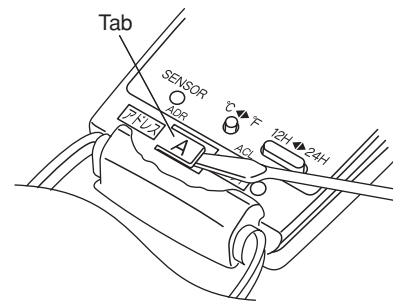
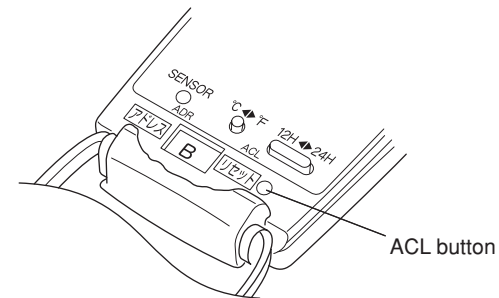
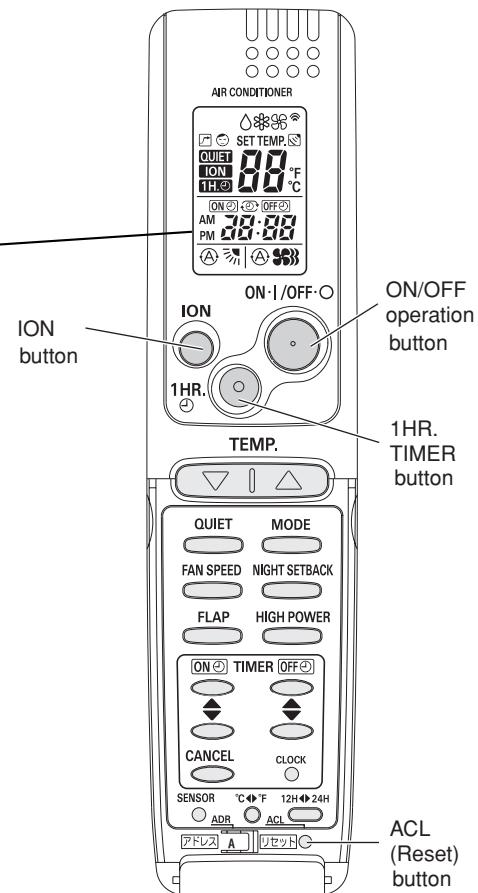

Fig. 62
Fig. 63
Fig. 64
- (1) Switch on the power source.
- (2) Break the address-setting tab marked "A" on the second remote controller to change the address (Fig. 62). When the tab is removed, the address is automatically set to B (Fig. 63).
- (3) Press and hold the remote controller ION button and 1 HR TIMER button. At the same time, press the ACL(reset) button. Use a thin object such as the tip of a pen to press the ACL button. When this has been done, "oP-1" (test run) appears, blinking, in the remote controller clock display area.
- (4) Each time the 1 HR TIMER button is pressed, the display changes as shown below. Press this button 2 times to change the display to "oP-7" (address setting). (Fig. 64)
- (5) "oP-7" has now been selected for address setting.
- (6) Press the ON/OFF operation button on the remote controller. (Fig. 64) Check that the "beep" signal-received sound is heard from the second indoor unit (approximately 5 times). The sound you hear is the signal that the remote controller address has been changed.
- (7) Finally press the remote controller ACL (reset) button to cancel the blinking "oP-7" display. (Fig. 64)